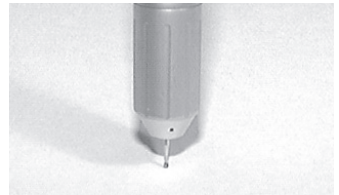

Fig. 12
- 1) As the chuck of the PRESTO AQUA handpiece is a push-in type, set FG burs of $\phi 1.6\text{mm}$ and push in as shown in Fig.12